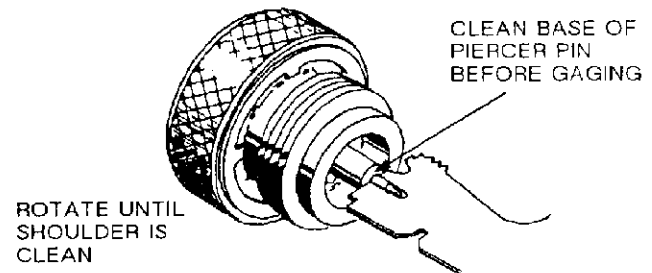

Fig. 5
5. Before gaging piercer pin length, clean carbon deposits from base of piercer pin, using slot in tool as shown in Figure 5.